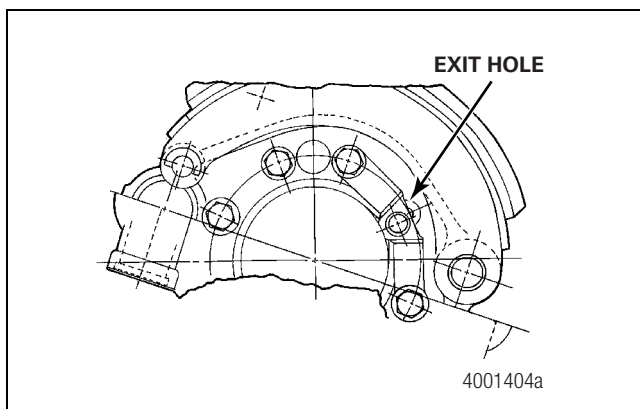

Figure 5.10
3. Route the connector end of the ABS sensor through the exit hole in the brake spider and the housing brake flange. Figure 5.10.